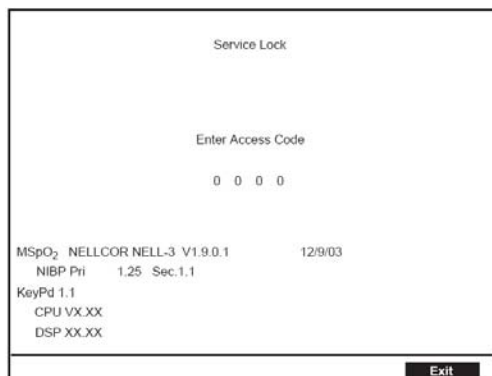

Figure 2-8
3. Select the *Service* softkey on the screen to have the *Service Lock* screen with 0 0 0 0 access code displayed ("Figure 2-8").